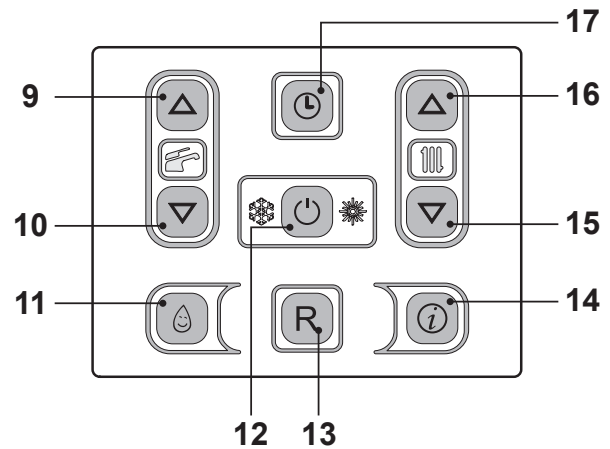
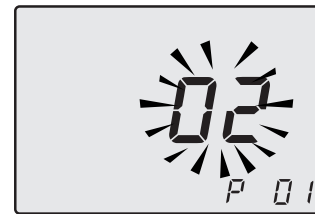
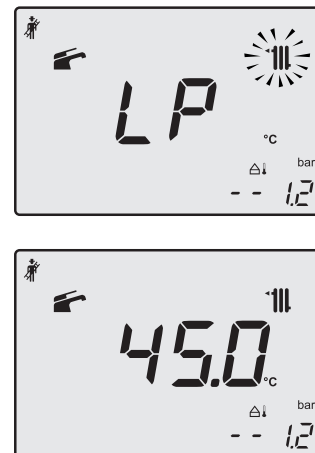
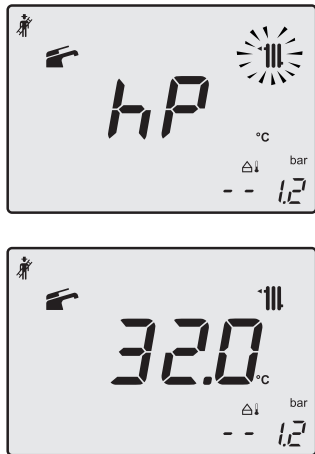

Fig. 9.19
Fig. 9.20
Fig. 9.21
Fig. 9.22
- Enter in "programming mode" by pressing keys 12 - 15 - 16 (Fig. 9.19) for 10 seconds at the same time until the letters **P01** are displayed on the LCD display, indicating that "parameter 01" (Fig. 9.20) has been activated.
- Press keys 15 and 16 (Fig. 9.19) at the same time until the LCD display displays the letters **LP** that alternate with the heating water temperature value (e.g. **45**), indicating the activation of the "chimney sweep function" at minimum output (Fig. 9.21).
- By pressing 16 (Fig. 9.19) it is possible to change power in chimney sweep mode: with the letters **hP** on the LCD display which alternate between the heated water temperature (i.e. **32**), we are in the "chimney sweep function" at the minimum power during heating (Fig. 9.22).
- Press keys 12 - 15 - 16 (Fig. 9.19) at the same time again to exit the "chimney sweep mode" and return to the previously set boiler status (Fig. 9.25).